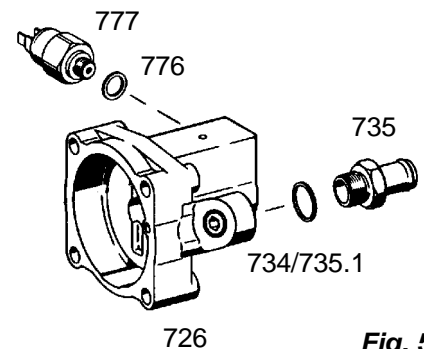

Fig. 5
3.1.1 Dismantle the intake connection (735) together with sealing ring (735.1) or O-ring (734) (**Fig. 5**).